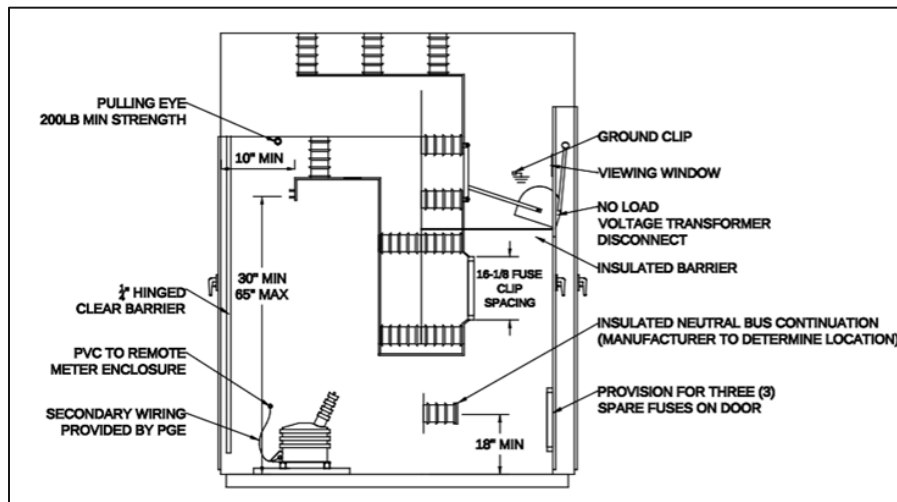

Figure 18: VT Compartment for 34.5 kV (STD-M-3600)
- Between metering potential transformers (PTs) and the access door. This barrier must be hinged to allow unobstructed access to the metering PTs and bus as shown in Figure 18.
- A minimum 1/4-inch clear polycarbonate insulating barrier is required between metering VTs and the access door. This barrier must be hinged to allow unobstructed access to the metering VTs and bus, as shown in Figure 12 and Figure 18.
For 34.5 kV services, the VT compartment must meet the clearances shown in Figure 18.